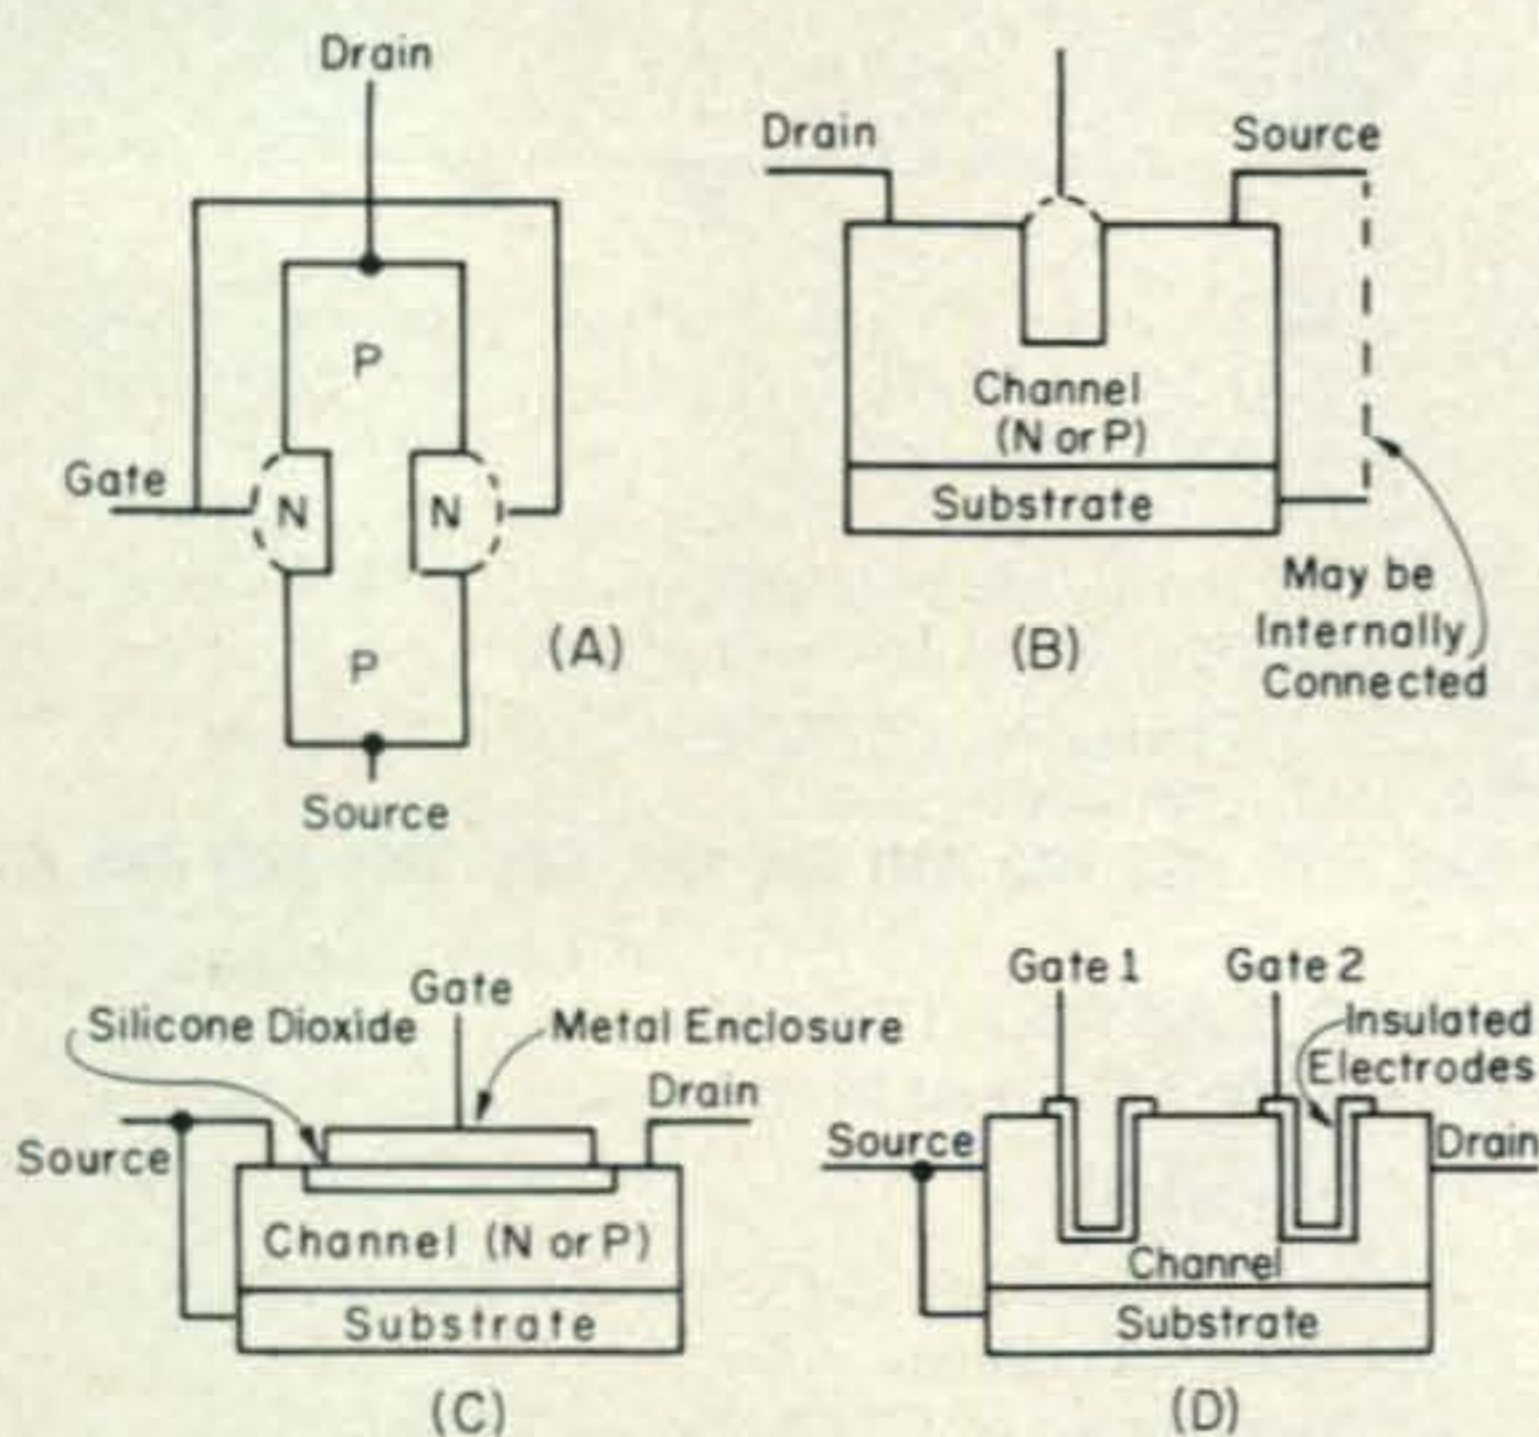

Fig. 1—Construction cross section of various junction FET's, (A) and (B), and MOS type FET's, (C) and (D).
Figure 1 (A) is a representation of a single gate FET. This type is usually called a junction type because there exists an NP junction between the gate and the drain-source P-type semiconductor material. Although the gate is operated biased to the source so that no cur-
Figure 1 (B) is an extension of fig. 1 (A), a so-called four terminal junction gate FET. In effect it can be considered to have two parallel gates, or at least a construction which allows a form of two gate operation. Usually the small gate which has the lower capacitance to other elements was used as the signal input gate and the larger gate was used for bias and a.v.c. purpose.
Junction type FET's are giving way in most r.f. applications now to MOS (metal oxide semiconductor) type FET's. Figure 1 (C) shows the representative construction of a single gate MOSFET. The gate actually consists of a metal electrode which is separated from the N-type drain-source material by a very thin layer of silicon dioxide. The oxide layer perfectly insulates the gate and no interface effects take place. This allows the input impedance of the gate to be as high as 1000 megohms. The fact that the gate is insulated also allows "field effect" control of the current flowing between the drain and source terminals by either enhancing or depleting the current carriers in the gate controlled portion of the N-type material. Thus, one may find a voltage of either polarity specified for the gate control voltage, depending upon the FET's construction.
Figure 1 (D) is a representation of the dual gate MOSFET. In this case, the gates are in series and either one can exercise independent control of the FET's operation. There is some capacitance between the gates which results in mutual coupling but it is rarely of significance until frequencies of 400-500 mc are considered. Many, but not all, dual gate MOSFET's operate in a depletion mode and so the polarity of the bias on the gates is opposite to what one expects after having been used to simple junction type FET's. Generally, most dual gate MOSFET circuits are arranged so that the gate nearest the drain is fix-biased and the gate nearest the source is used for the signal input, similar to the usual vacuum tube tetrode circuit.